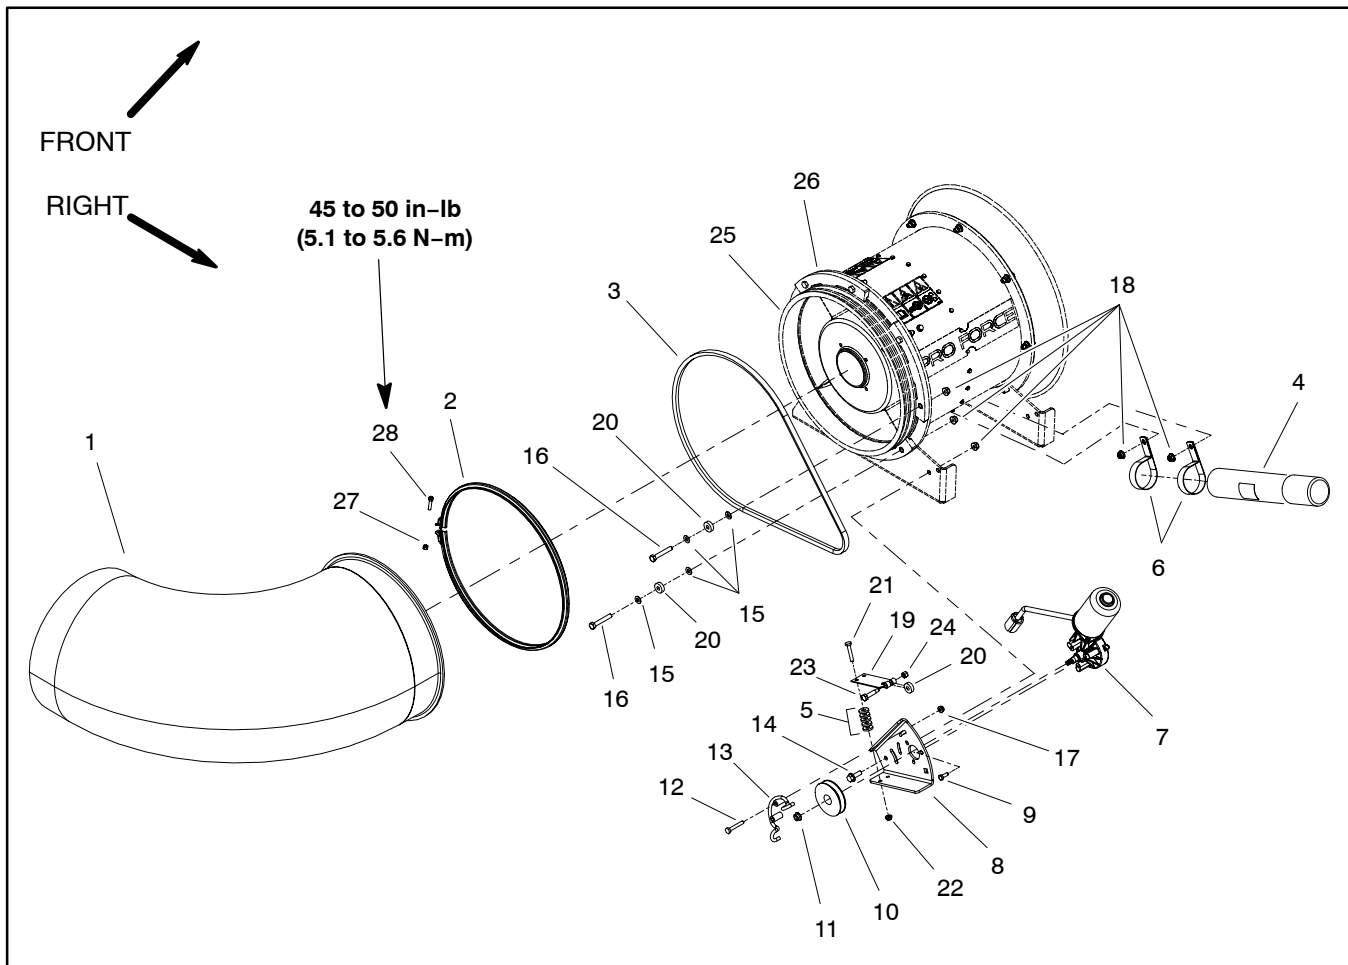
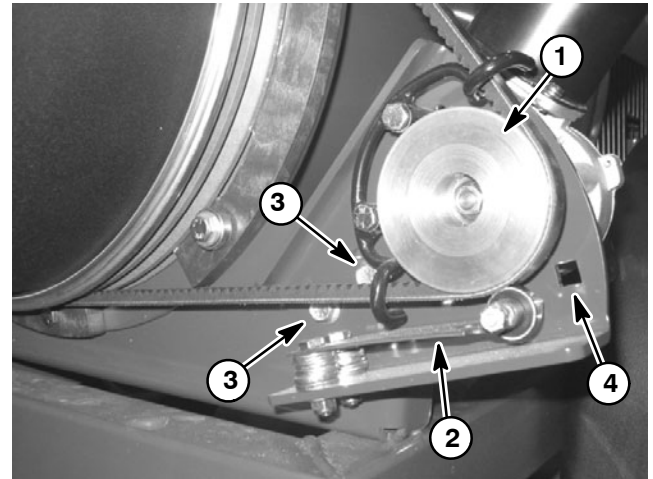

Figure 11
Figure 12
### Removal (Fig. 11)
5. Remove two (2) cap screws (item 21) and flange nuts (item 22) that secure leaf spring to motor bracket. Remove leaf spring with bearing and flat washers (item 5) from bracket.
6. Loosen two (2) flange head screws (item 14) and flange nuts that secure nozzle motor bracket to outer housing. Rotate bracket and nozzle motor to loosen v-belt.
7. Loosen cap screws and flange nuts that secure belt guard (item 13), route v-belt from behind guard and carefully remove belt from machine.
8. If necessary, remove nozzle guides, pulley bearings and nozzle pulley from outer housing using Figures 11 and 13 as guides.
### Installation (Fig. 11)
1. If removed, install nozzle pulley, pulley bearings and nozzle guides using Figures 11 and 13 as guides.
2. Place v-belt in nozzle pulley, route behind belt guard (item 13) and install belt on motor pulley.
3. With a 3/8 in. drive torque wrench, pivot the motor bracket from **200 to 230 in-lb (23 to 25 N-m)** to set v-belt tension (Fig. 12). **Do not over tension belt.** Hold bracket with the torque wrench and tighten two (2) flange head screws and flange nuts to secure belt adjustment and nozzle motor bracket.
5. Position leaf spring with bearing and flat washers (item 5) to bracket. Make sure that five (5) washers are placed between spring and bracket at each mounting hole. The bearing on the leaf spring should be centered on the outside of the v-belt. Secure leaf spring to motor bracket with two (2) cap screws (item 21) and flange nuts (item 22).